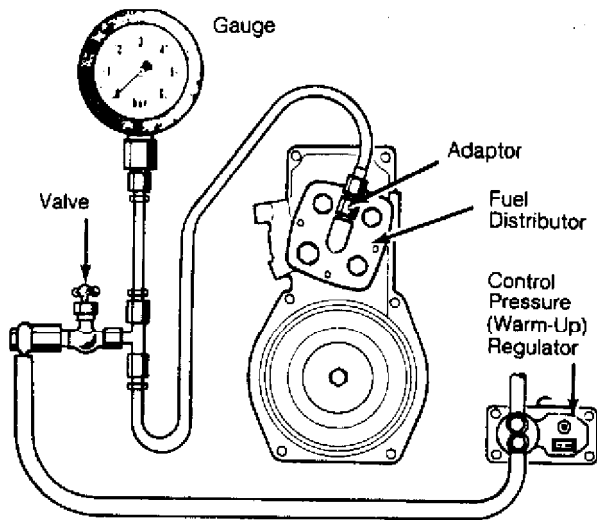

Fig. 5: Pressure Gauge Installation
- 2) Install pressure gauge to perform fuel pressure tests. On all models, pressure gauge is installed in line between control pressure regulator and fuel distributor. See Fig. 5.